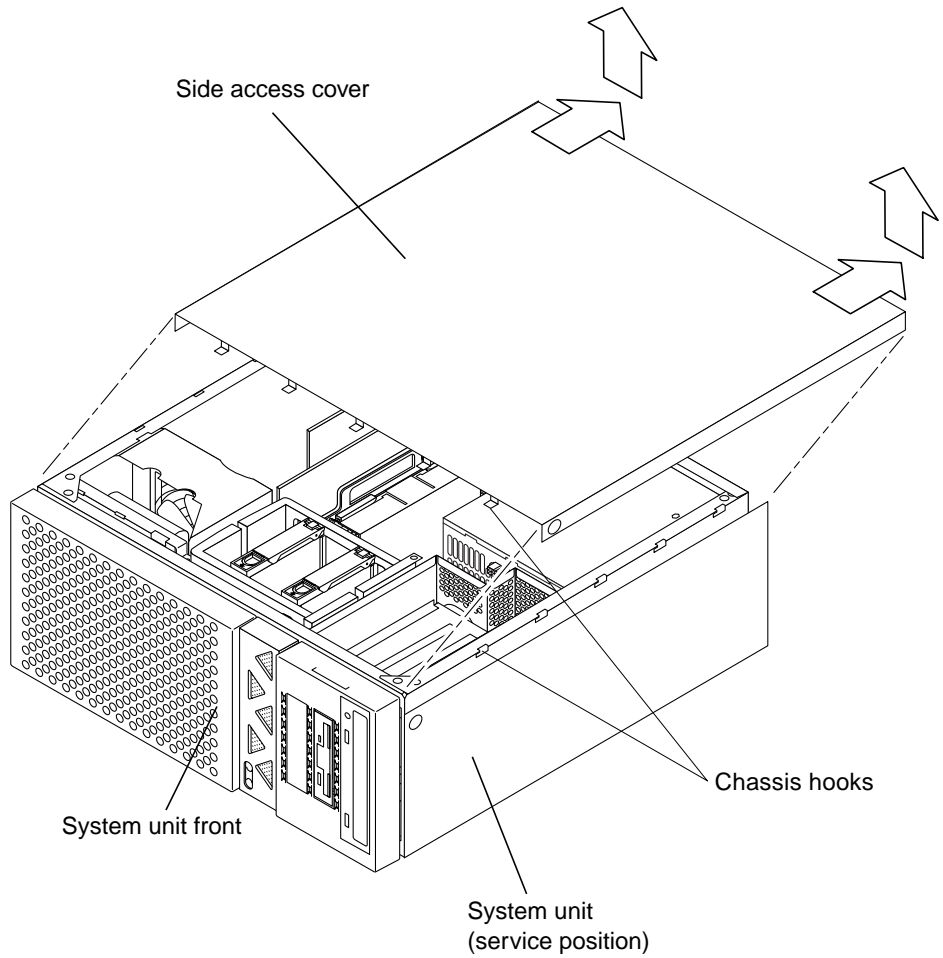

FIGURE 7-2 Removing the Side Access Cover
- 4. Remove the side access cover as follows (FIGURE 7-2):**